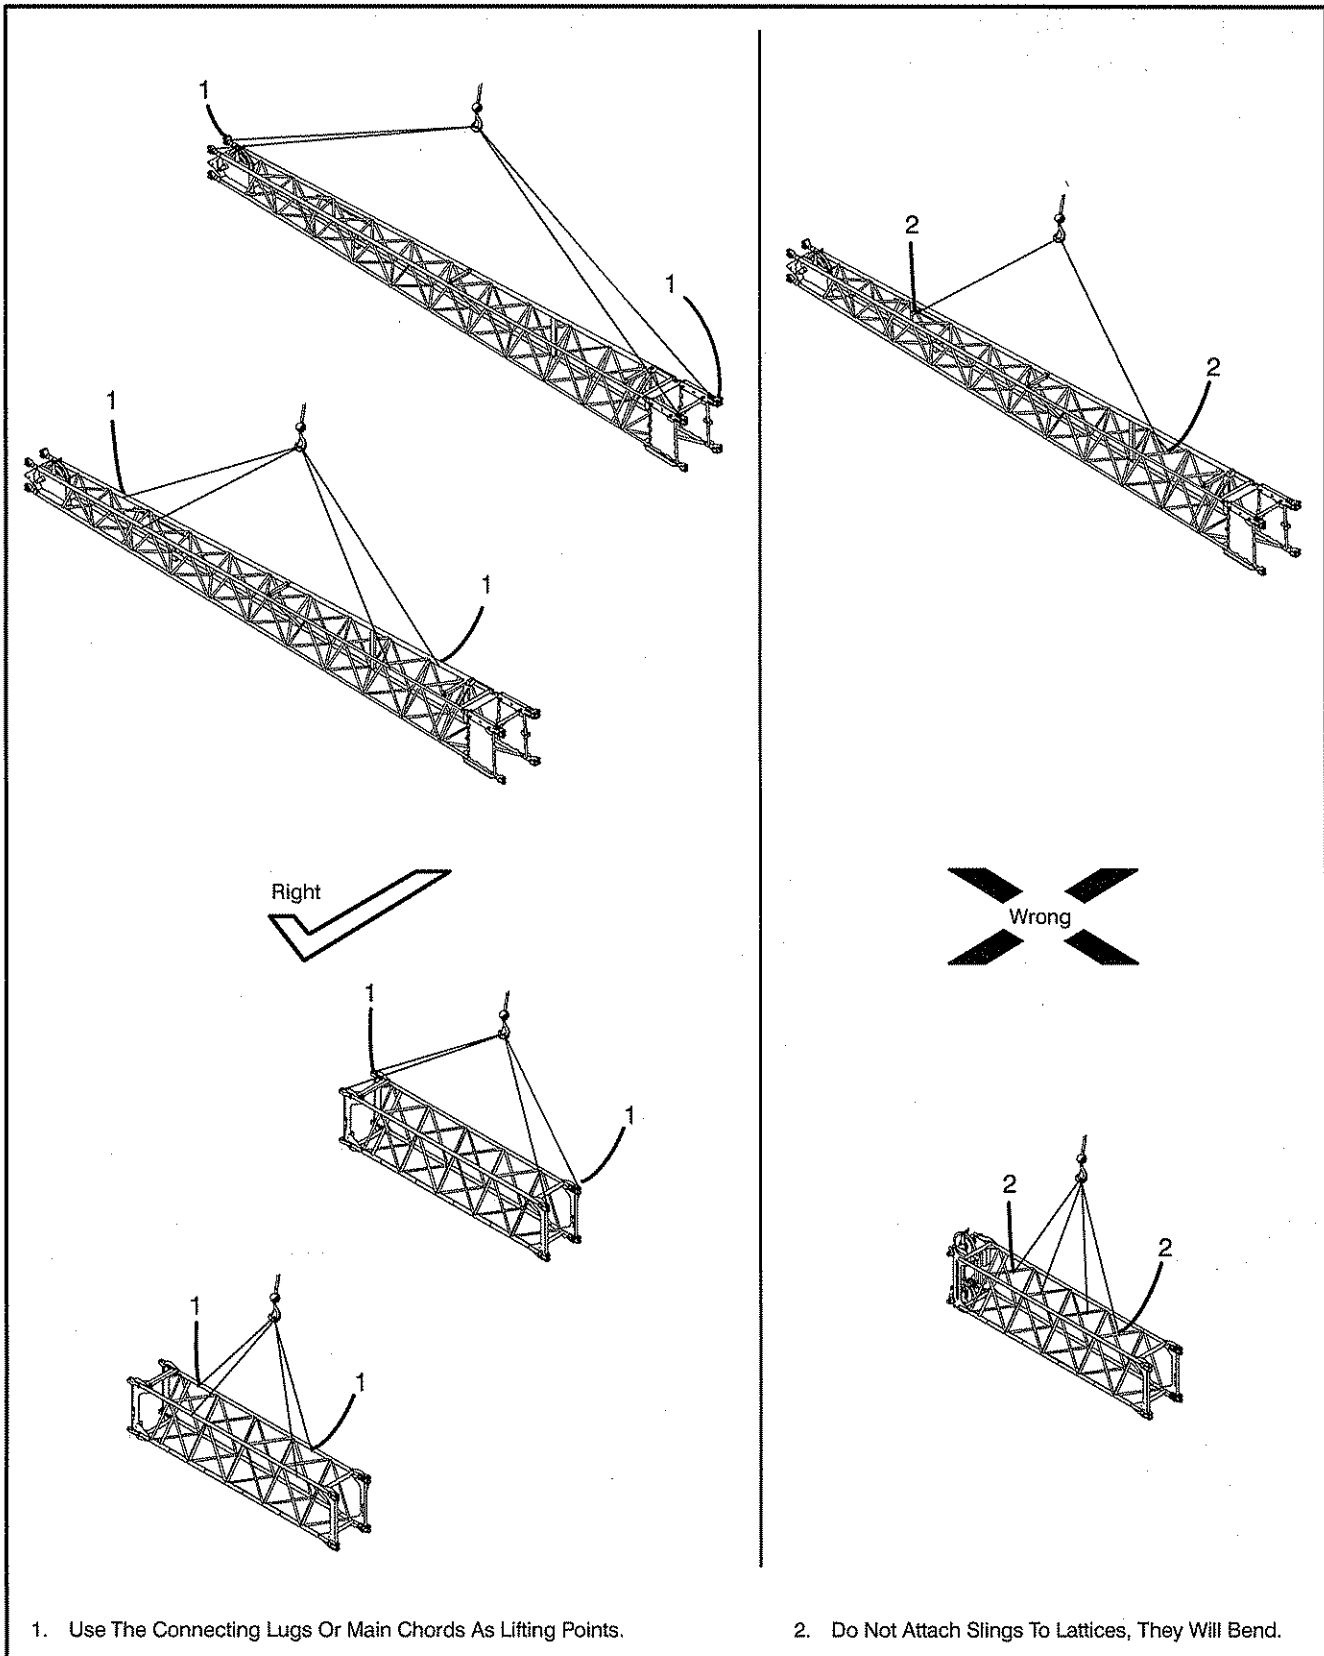

Figure 4-3
4. When handling fly or the extensions, do not attach slings to the lattices when lifting, as they will bend. Use the connecting lugs, at each end of the section, or main chords as the lifting points. Refer to Figure 4-3.